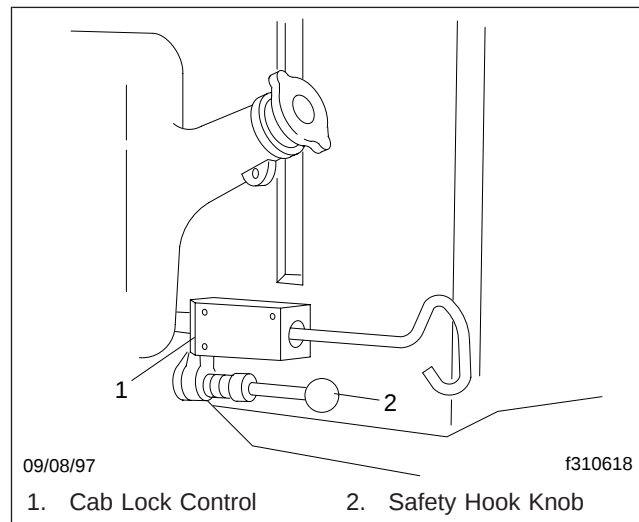

Fig. 2.15, Back of Cab
3. Insert the cab lock handle in the lock control located on the passenger's side of the rear cab panel (Fig. 2.15). Push the safety hook knob inward, then rotate the handle counterclockwise and pull the handle outward. The handle will still be engaged.